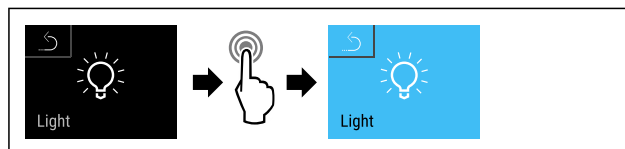

Fig. 94
- ▶ Complete steps (see Fig. 94).